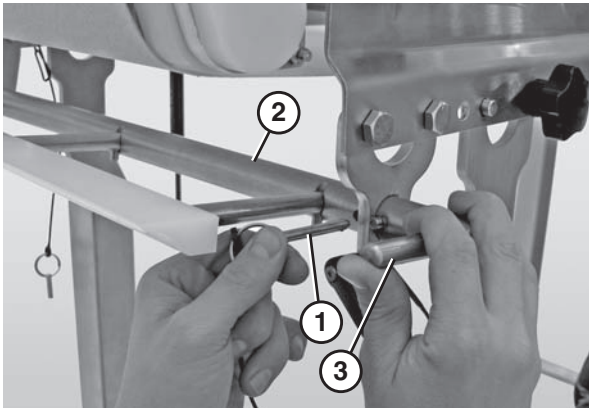

Figure 26
- Insert the pin (Figure 26, item 1) to lock the scraper bar in place (Figure 26, item 2).
- Adjust the scraper to the desired position using the scraper bar handle (Figure 26, item 3).